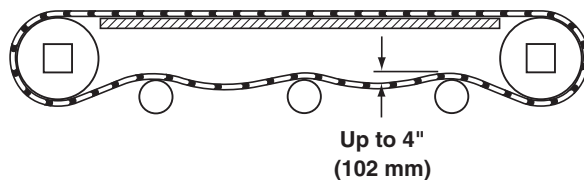

Figure 40
4. Check belt sag by measuring from the top of the return (Figure 40). Belt sag should not exceed 4" (102 mm). Follow steps 7 – 9 in the “Belt Installation” section on page 13 to remove slack from the belt.